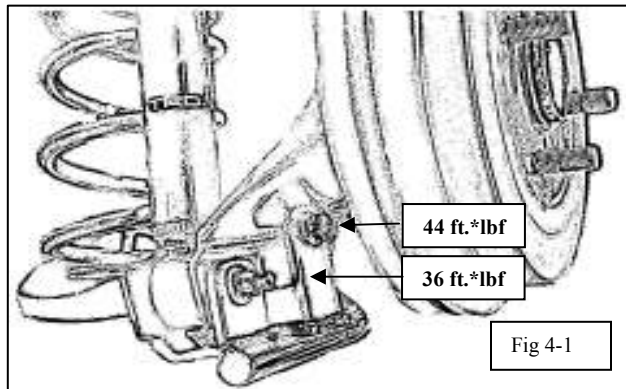

Fig 4-1
- (c) Install provided hardware into forward mounting holes on the sway bar once they line up with the corresponding mounting holes on the beam axle. (Fig 4-1)